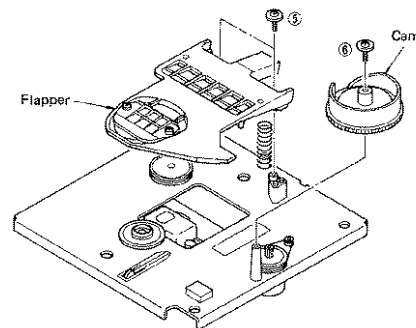

Fig. 5
- a. Remove 2 screws (⑤) fixing Flapper in Fig. 5 and then remove the Flapper.
- a. Remove screw (⑥) in Fig. 5 and then pull up the Cam.